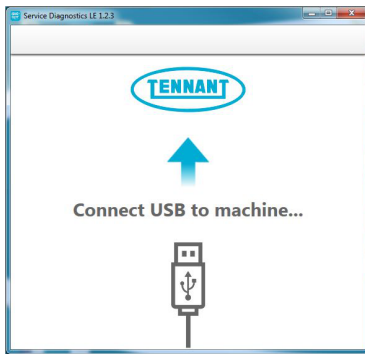

Fig. 14
1. Start the Service Software Application program. After start up, the following screen will appear (Figure 14).